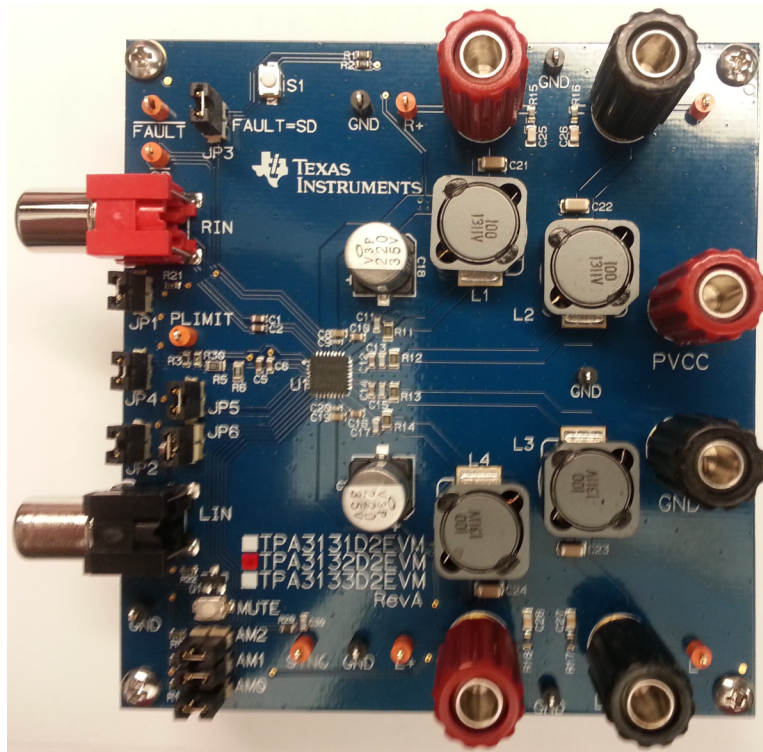
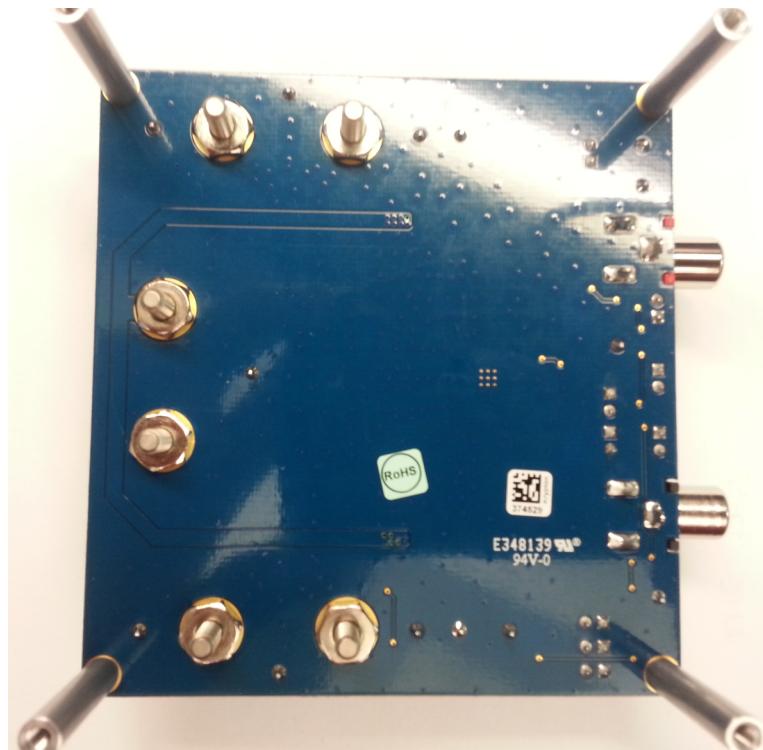

Figure 1. TPA3132D2EVM Audio Power Amplifier – Top View
Figure 2. TPA3132D2EVM Audio Power Amplifier – Bottom View
The TPA3132D2EVM (EVM) customer evaluation module, Figure 1 and Figure 2, demonstrates the TPA3132D2 integrated circuit (IC) from TI.